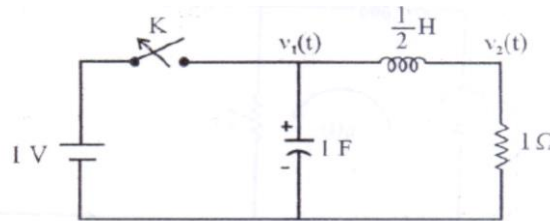

Fig.6.61
34. At  $t = 0$ , the switch K is opened in the network shown in Fig.6.61. Find the value of  $V_1(t)$  and  $V_2(t)$  for all  $t > 0$ , using L.T method.